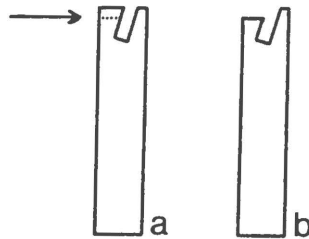

Fig. 5.
2. Next the front side has to be sawn as shown in figure 5.